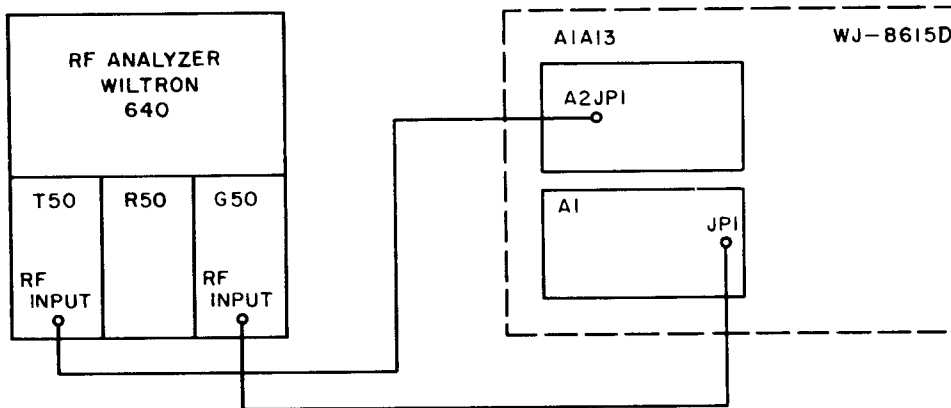

Figure 4-9. 1st Converter Alignment, Equipment Connections
- 5) Connect the equipment as illustrated in **Figure 4-9** and adjust the Offset on the Wiltron to verify the gain. (Change the T50 dB/div to 1 dB/div provide greater accuracy.)